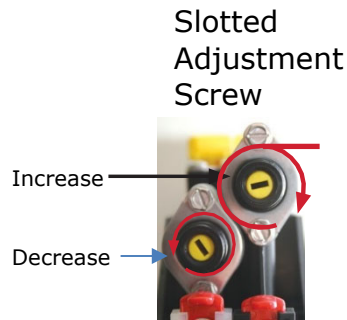
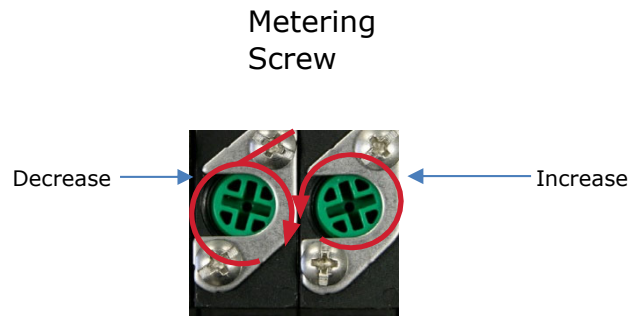

Fig. 4.1
Fig. 4.2
- B. To adjust flow control assembly adjust the slotted yellow screw (Fig. 4.1). To regulate flow, turn clockwise to increase flow and counterclockwise to decrease flow. If the flow control assembly contains a Phillips green adjustment screw, it is mechanical module. To regulate flow, turn counterclockwise to increase flow and clockwise to decrease flow see Fig 4.2.